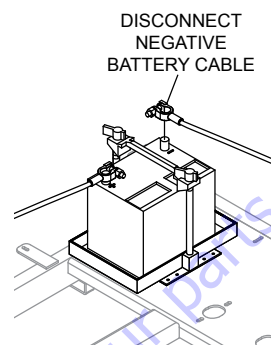

Figure 5. Disconnecting Battery
1. For LT12D light towers, disconnect the negative cable (black) from battery. See Figure 5.